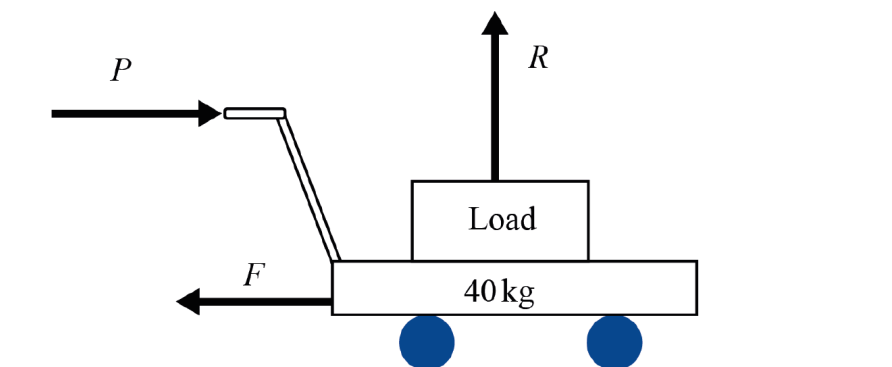

Fig. 5
- 4** Fig. 5 shows a diagram of a trolley used to transport components around a factory. The trolley has a mass of 40 kg, while the mass of the load varies. The total normal reaction force of the floor on the trolley is R N. The trolley is being pushed with a horizontal force of P N. There is also a resistance force, F N = $0.2 \times R$ N acting in the opposite direction to P .